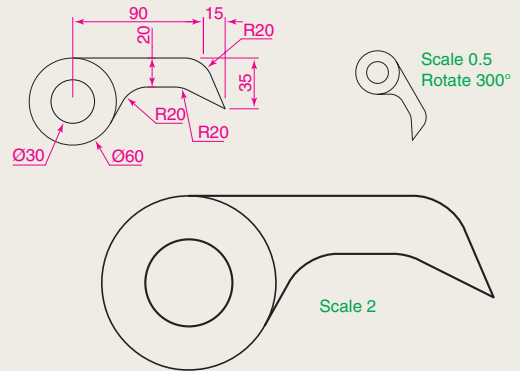

Fig. 5.54 Exercise 8
- Construct the dimensioned drawing of Fig. 5.54. With **Copy**, copy the drawing. Then with **Scale**, scale the drawing to scale of **0.5**, followed by using **Rotate** to rotate the drawing through an angle of as shown. Finally scale the original drawing to a scale of **2:1**.